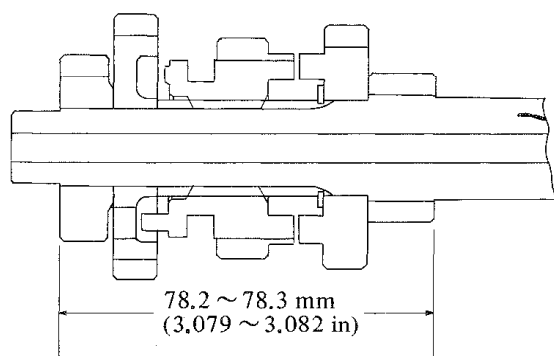

Fig. 7-3-17
- 2) The press-fit should be made so as to have 78.2 ~ 78.3 mm (3.079 ~ 3.082 in) from the low gear end to the end of 2nd gear as shown in Fig. 7-3-17.